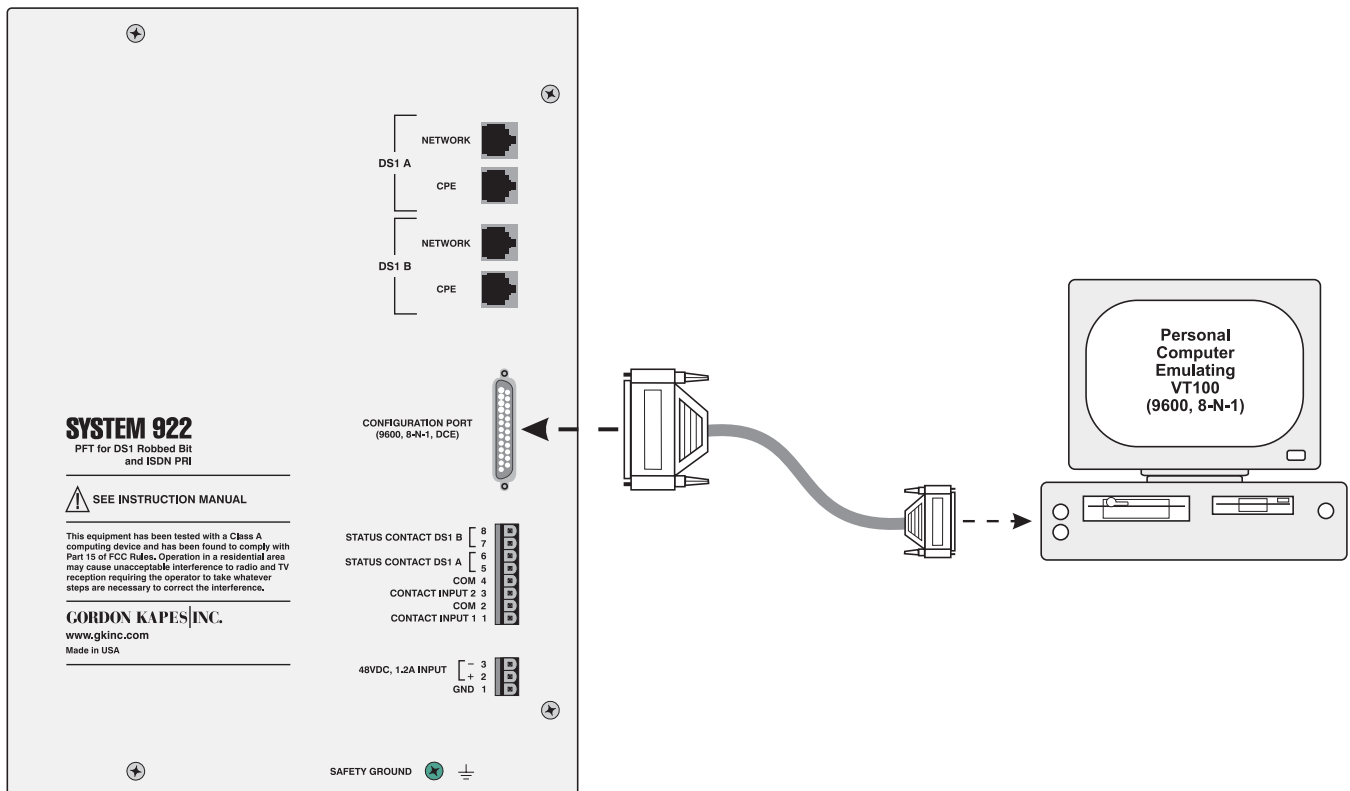

Figure 2-14. Connecting the Configuration Port to a Personal Computer
- ❑ Connect the serial communications cable to the configuration port on the System 922. The configuration port is shown in Figure 2-14.